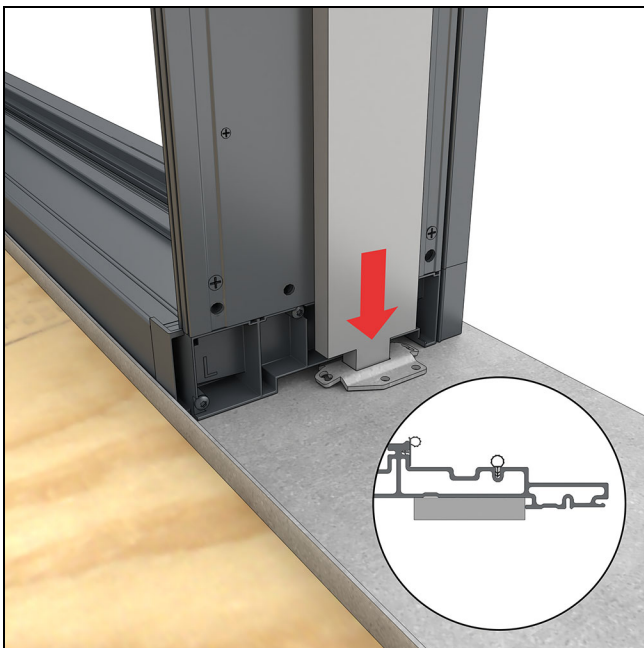

Figure 16
4. Set the steel reinforcement in the bracket and tight against the step in the frame. See Figure 16.